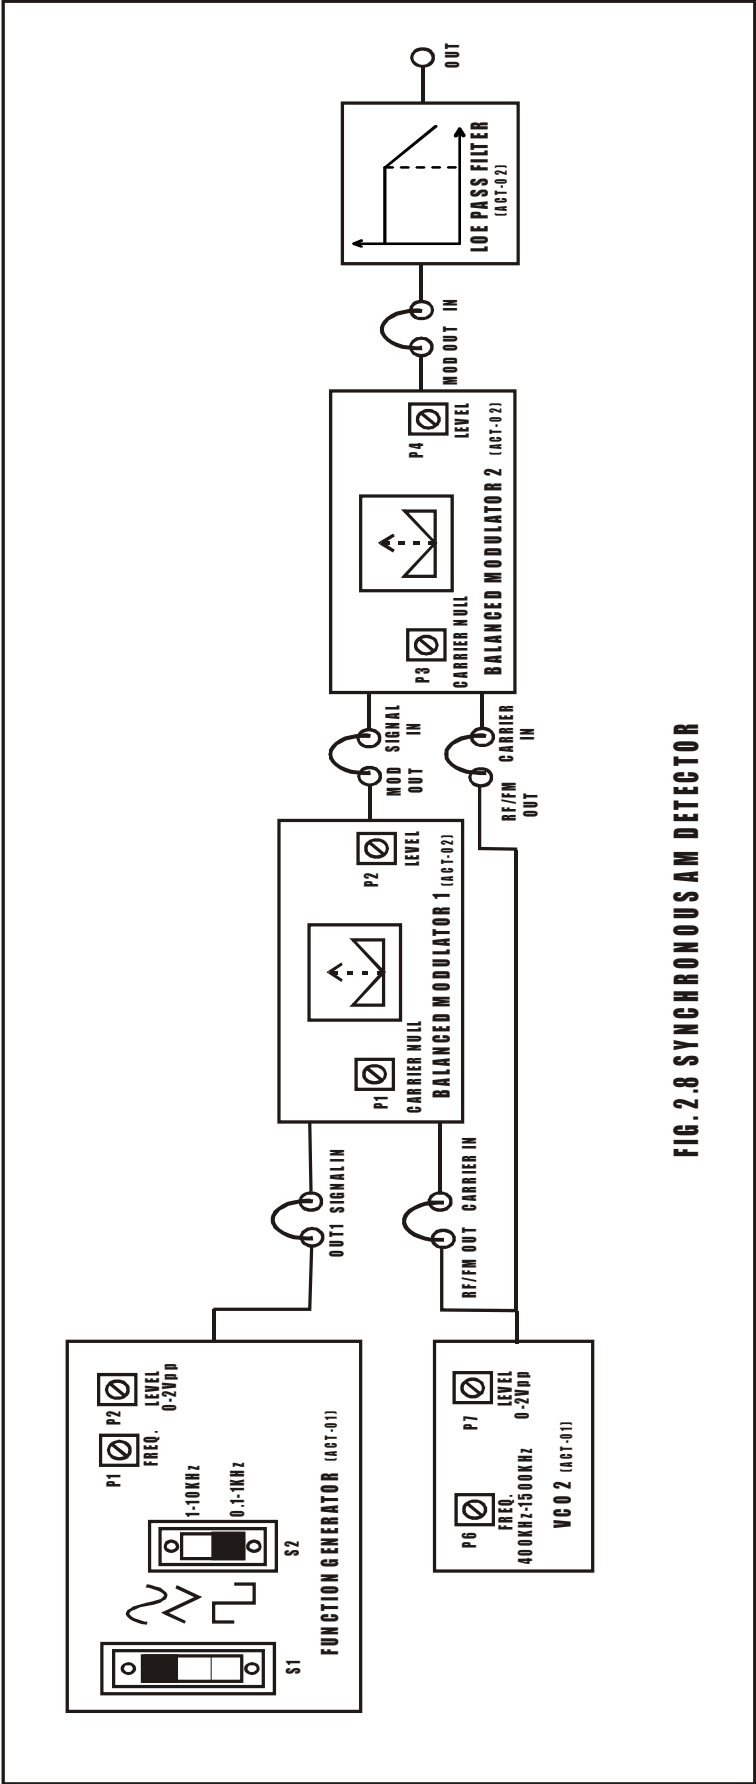

FIG. 2.8 SYNCHRONOUS AM DETECTOR
- Refer to the fig.2.8 & Carry out the following connections and settings.